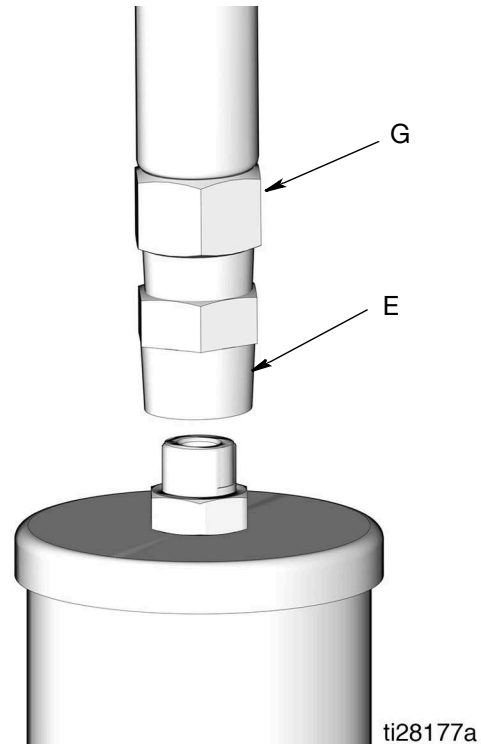

FIG. 6
3. Disconnect the lubricant supply line (G) from the pump outlet (E) (FIG. 6).
5. Run the pump a few strokes until oil, free of air, comes out of the pump outlet (E) (FIG. 6).